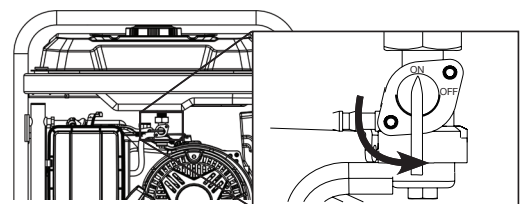

Figure 10 - Fuel Shut Off - ON
- ① Circuit Breaker Operating Position
- ② Circuit Breaker Tripped Position
6. Move the fuel shutoff valve to the **ON** position (see Figure 10).